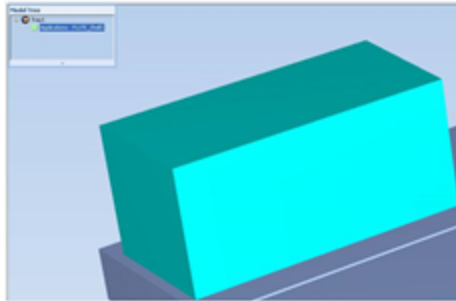

Figure 5-51 Model displayed with bounding box
- ☐ With a *Bounding Box* (see Figure 5-51 on page 5-45)